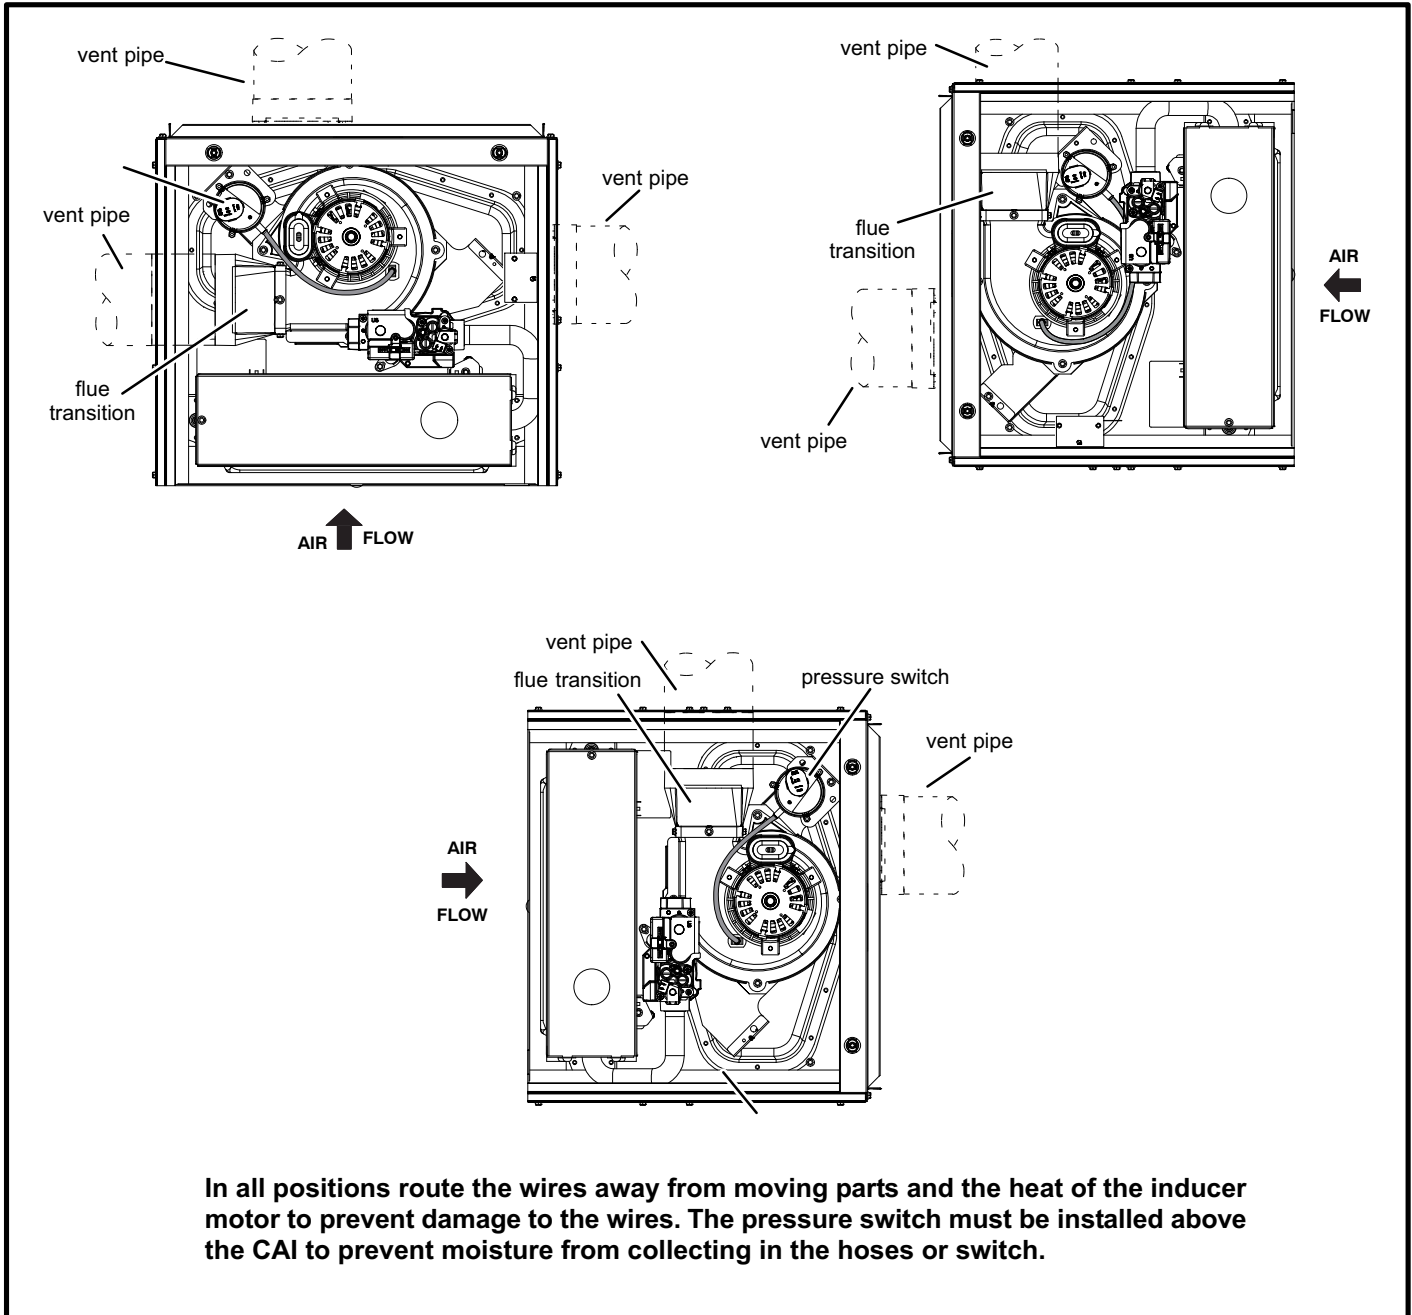

FIGURE 14
The SL280UHV(X) furnace can vent in multiple positions. See figure 14.